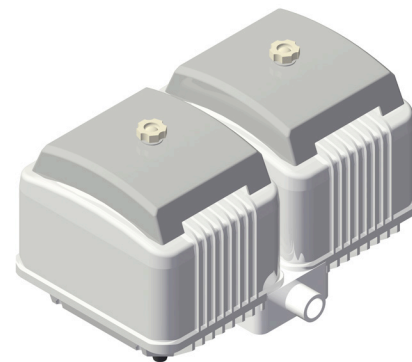

Figure 2: AU-400
**(Optional Accessory)AU-400 Pump Unit** - 560 watt rated air pump unit capable of producing 11.0 cubic feet per minute (0.31 cubic meters per minute) @ 2.5 psi (17 kiloPascal). 100% duty-cycle. 6ft AC pigtail cord plugs into standard 120vAC, 20 Amp Service. Sound Level: 52dB Connection: 3/4" NPT Thread. (See Figure 2)